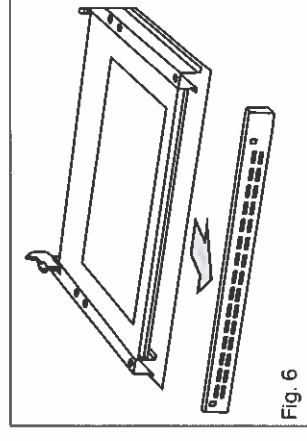

Fig. 6
- Remove the door slat, as per fig. 6, and place it somewhere safe where it will neither receive nor cause damage.